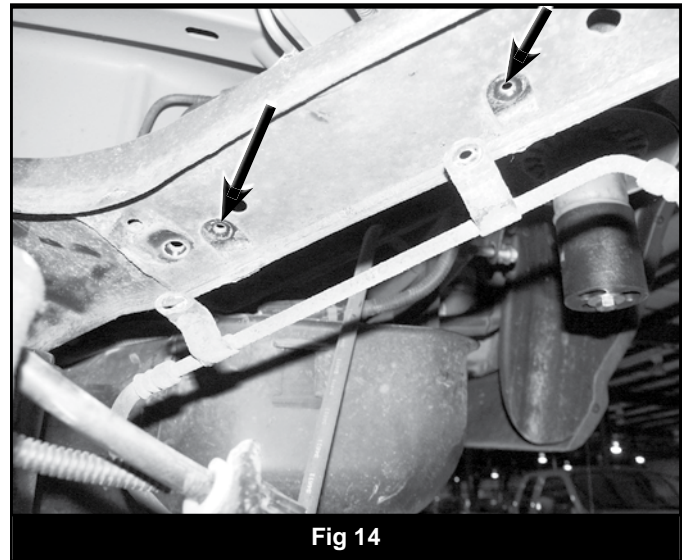

Fig 14
11. Disconnect the brake line brackets attached to the rear upper control arm (Fig 14, 15). Retain hardware.